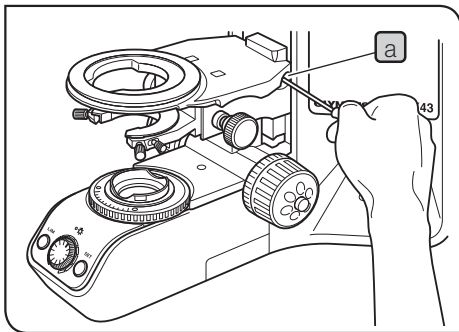

Fig.29
**5 Adjusting the stage height (Figs.29 & 30)**